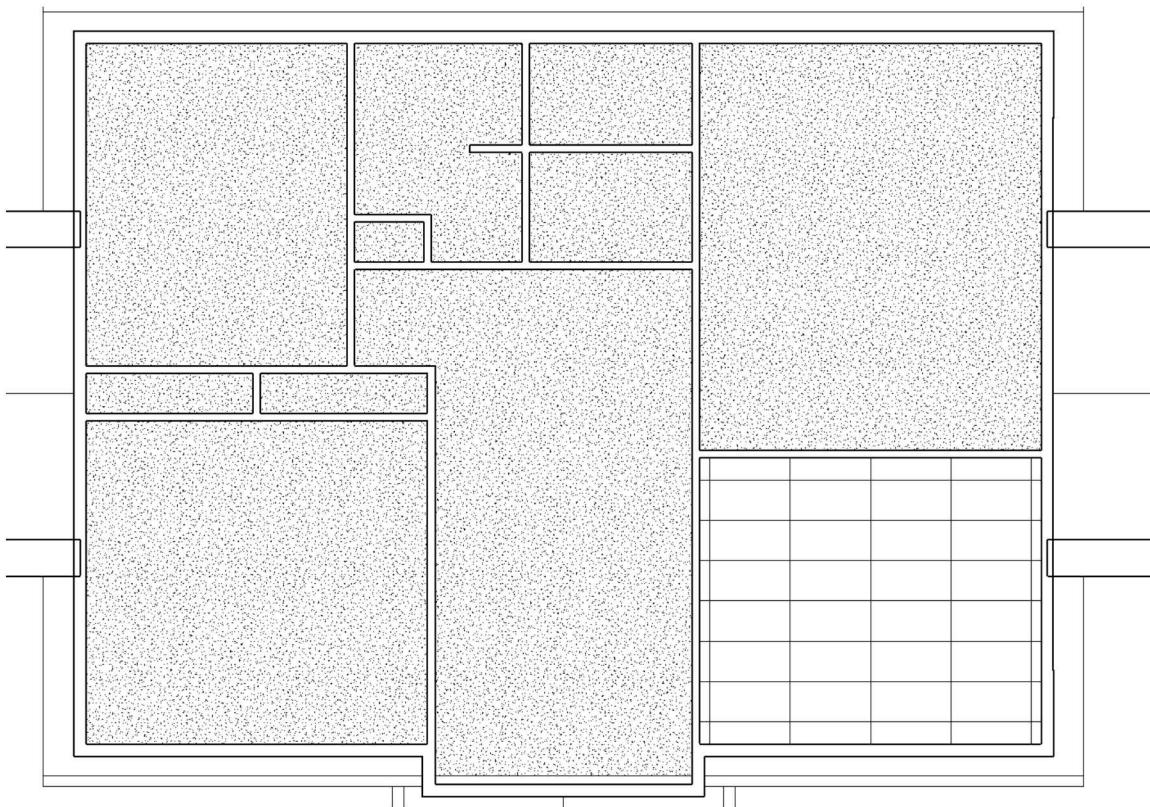

FIGURE 9-2.18 Second Floor Ceiling Plan: gypsum board ceiling system suspended at 8'-0" AFF
47. Switch to the **Second Floor Ceiling Plan** and add your **Susp GB on Metal Stud** at 8'-0" high to the remaining rooms (Figure 9-2.18).